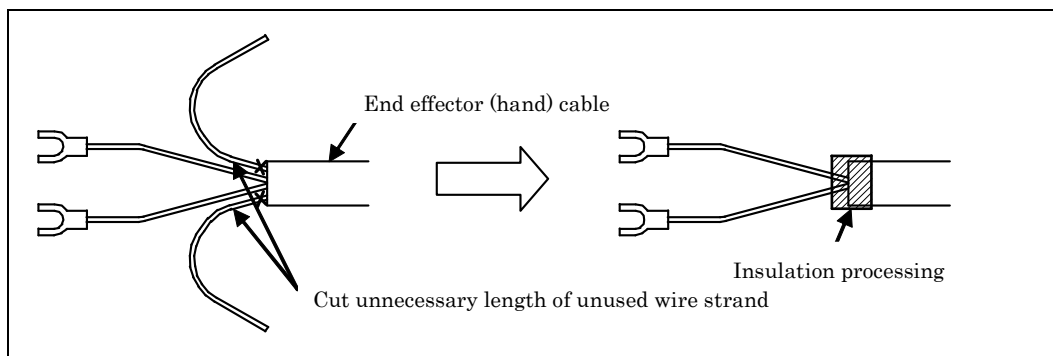

Fig. 5 Treatment method of end effector (hand) cable
- Cut and discard any unnecessary length of wire strand of the end effector (hand) cable. Insulate the cable with seal tape. (See Fig. 5)